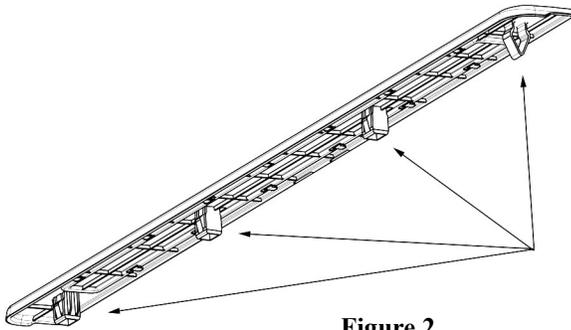
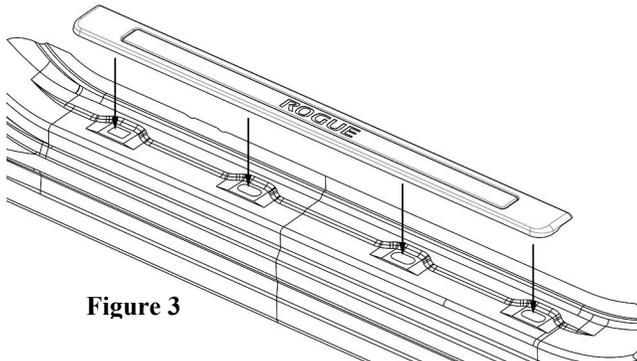

Figure 2
Figure 3
2. Starting from the front, align the clips (Figure 2) on the aluminum kick plate assembly with the body holes. (Figure 3)